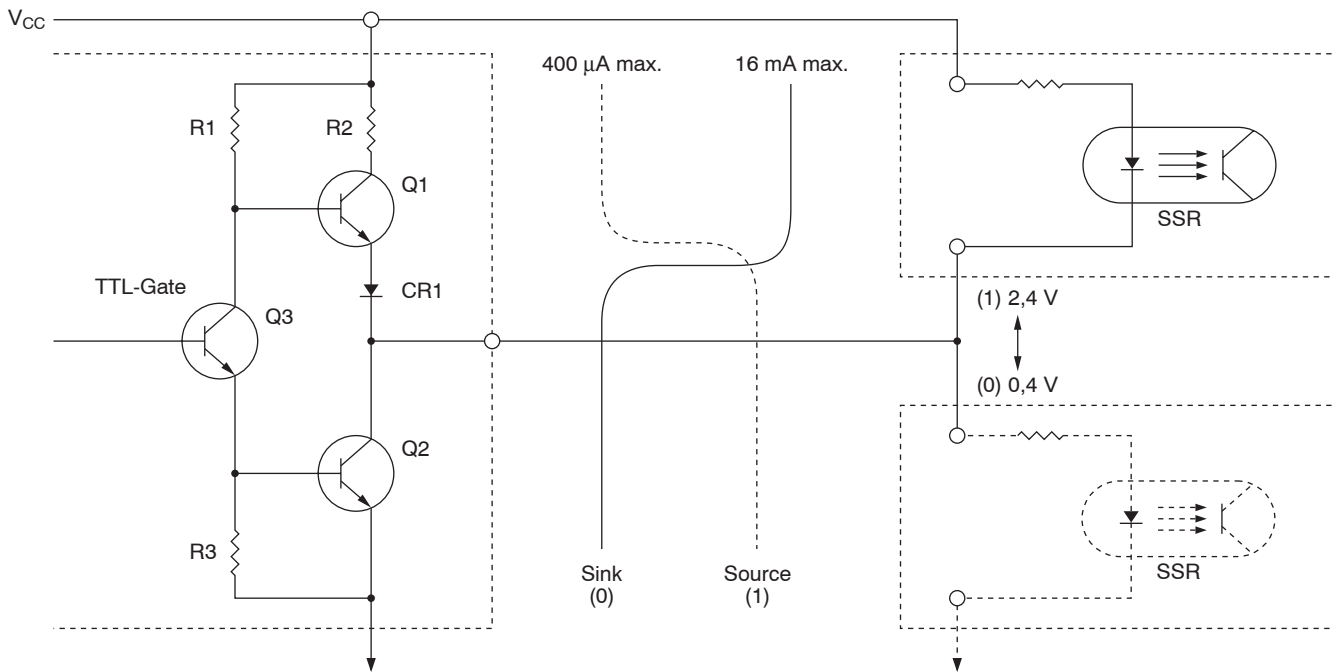

Fig. 6: Typical circuit of a TTL gate driving SSR
The activating signal may be derived from mechanical contacts or solid state devices such as those shown in figure 6 The minimum supply voltage through these contacts may be equal to the SSR turn-on voltage (3 volts dc typical), whereas the positively or negatively referenced transistors require a minimum supply voltage a few tenths of a volt above the specified turn-on threshold, say 3.5 volts
The relationship of the TTL gate to an SSR is illustrated schematically in Fig. 6. In this configuration the SSR supply voltage and the gate Vcc should be common and comply with the TTL specified limits of say 5 volts +/- 10%. It can be seen that with a positively referenced SSR and the gate at logical (0), Q2 is operating much like a discrete NPN transistor in the grounded-emitter saturated state. In this mode the gate can sink up to 16 mA with
It should be noted that the 2.4 volt gate output in the logical 1 state relates only to a negatively referenced load. It does not represent a voltage source to a positively referenced load (SSR), where it would appear to be greater than the off state voltage. Referring again to Fig. 6, Q2 would be off and CR1 is reverse biased, thus presenting essentially an open circuit with virtually zero potential across the SSR.
The off state leakage current in the driving semiconductor devices shown in Figs. 6 to 8 is significant, just a few microamperes, which could not possibly turn on the SSRs. However, the off state (output leakage current of any packaged solid state driving device (e.g. temperature controller, etc.) should first be checked for compatibility with the SSR.